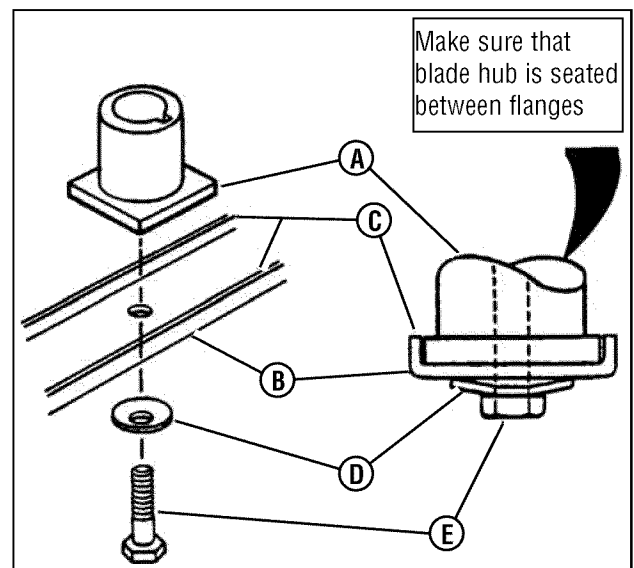

Figure 22: Removing the mower blade
3. Remove the blade (**B, Figure 22**).
- Reinstall blade (**B, Figure 22**). Note the correct assembly order: